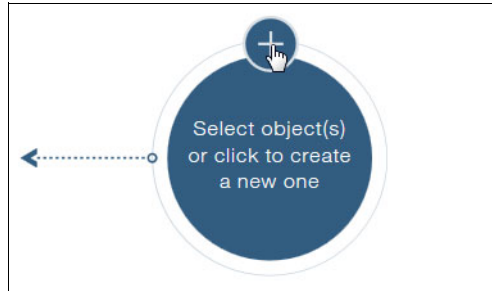

Figure 2-10 Add Pool
- In the Hyper-Scale Manager menu, click **Pools and Volumes Views** → **Pools**, and then create a storage pool by clicking the + icon, as shown in Figure 2-10.